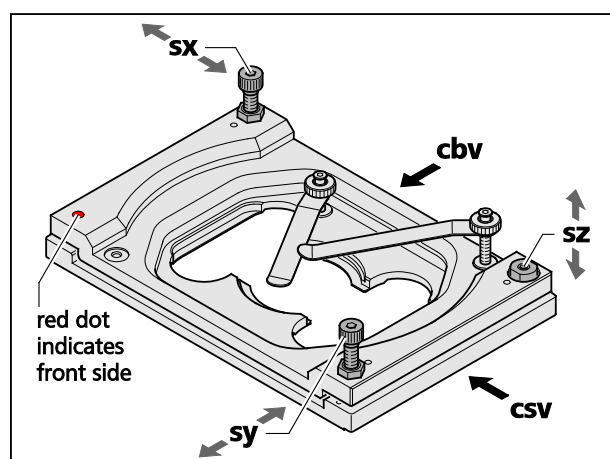
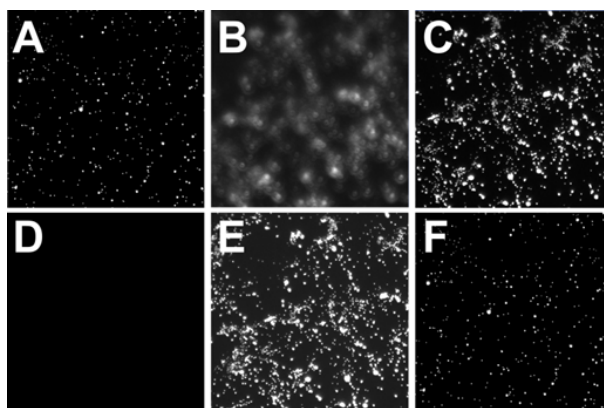

Fig. 6 Adjustable sample holder – schematic view
Fig. 7 Focus control in epi-fluorescence
1. Take a fluorescent sample like embedded beads and mount centrally over the objective. (Note: you can also use your own fluorescent sample). Use WF illumination with the X-Cite or laser light and focus manually onto the sample using the stand's focus drive (Fig. 7/A).
- b) If the sample is out of focus (Fig. 7/B) refocus manually by using the stand's focus drive (Fig. 7/C); otherwise no further leveling is necessary. Record the relative change in the focus position by reading the value in the **Z-Position** input box of the **Focus** tool. If the focus is off more than 10 μm it is recommended to do a pre-adjustment. To this end adjust the edges of the clefts viewed from the right side (Fig. 6/csv) and back side (Fig. 6/cbv) to be parallel using screws **sy** and **sx**, respectively (Fig. 6). The cleft's width should be approximately 2 mm as preset by the factory, but can be adjusted with screw **sz** if needed.
- c) Multiply that value with **55** and manually set the focus onto this value using the stand's focus drive (Fig. 7/D). (Note: The factor **55** is only accurate, if the sample was positioned in the center.)
- d) Use the back left screw (Fig. 6/sx) of the sample holder to readjust the focus (Fig. 7/E). Turn clockwise if the focus position was positive, counter clockwise if it was negative. (Note that one turn corresponds to approximately 125 μm).
- e) Press the lower pointing arrow of the **X** input box of the **Stage** tool to return to the initial position. If the image is in focus (Fig. 7/F) X leveling is complete; otherwise repeat steps 3a) - e) iteratively. If applicable, the multiplication factor of 3c) can be adjusted.
- a) Enter in the **Stage** tool in the **Step [μm]** input box "1000". Press the upper or lower pointing arrow of the **Y** input box, whatever is required to step 1000 μm upwards in the Y direction (Fig. 7/A).
- b) If the sample is out of focus (Fig. 7/B) refocus manually by using the stand's focus drive (Fig. 7/C); otherwise no further leveling is necessary. Record the relative change in the focus position by reading the value in the **Z-Position** input box of the Focus tool.
- c) Multiply that value with **40** and manually set the focus onto this value using the stand's focus drive (Fig. 7/D). (Note: The factor **40** is only accurate, if the sample was positioned in the center.)
- d) Use the front right screw (Fig. 6/**sy**) of the sample holder to readjust the focus (Fig. 7/**E**). Turn clockwise if the focus position was positive, counter clockwise if it was negative. (Note that one turn corresponds to approximately 125  $\mu\text{m}$ ).
- e) Press the lower pointing arrow of the **Y** input box of the **Stage** tool to return to the initial position. If the image is in focus (Fig. 7/**F**) Y leveling is complete; otherwise repeat steps 4a) - e) iteratively. If applicable, the multiplication factor of 4c) can be adjusted.